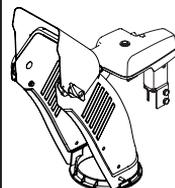

Figure 7
**NOTE:** On models with Overhead Chute Control (with Flex Shaft), Four-Way Chute Control, and Electric Chute Control cut cable ties securing flex shaft to the lower handle and set the flex shaft aside. Remove rubber bands securing cables to carriage bolts and cut cable tie securing shift rod to lower handle. Refer to Figure 7 to help identify the control styles.
Refer to Figure 7 below to identify your "Chute Control Style" and continue to the "Assembly" instructions for your specific style on pages 8-13.